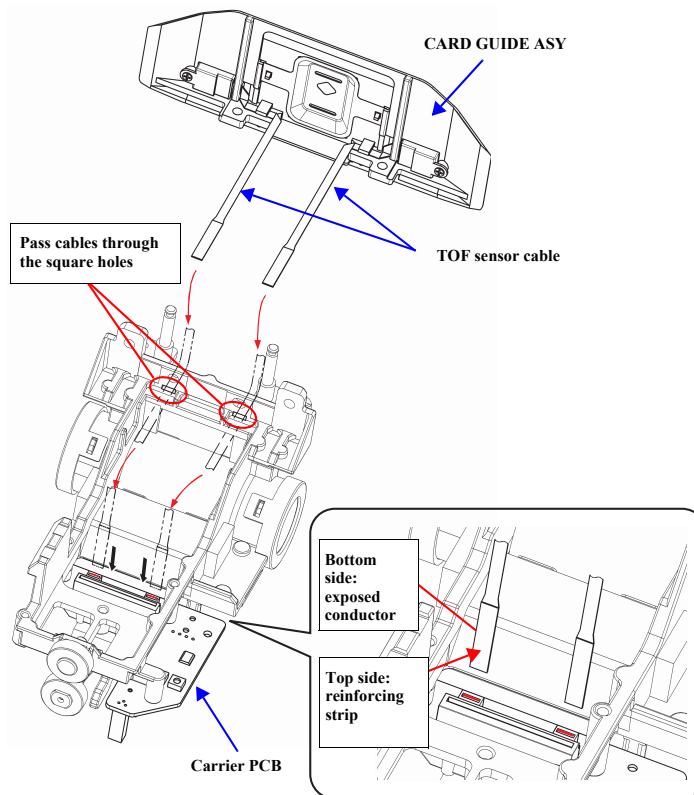

Figure 4-28. TOF Sensor Cable Reassembly
- When installing the CARD GUIDE ASY, thread the TOF sensor cables as shown in Figure 4-28.
- Connect the two TOF sensor cables to the PCB connectors, observing their orientation with reference to Figure 4-28. Top side: the side covered with an insulating and reinforcing strip. Bottom side: exposed metal conductors.